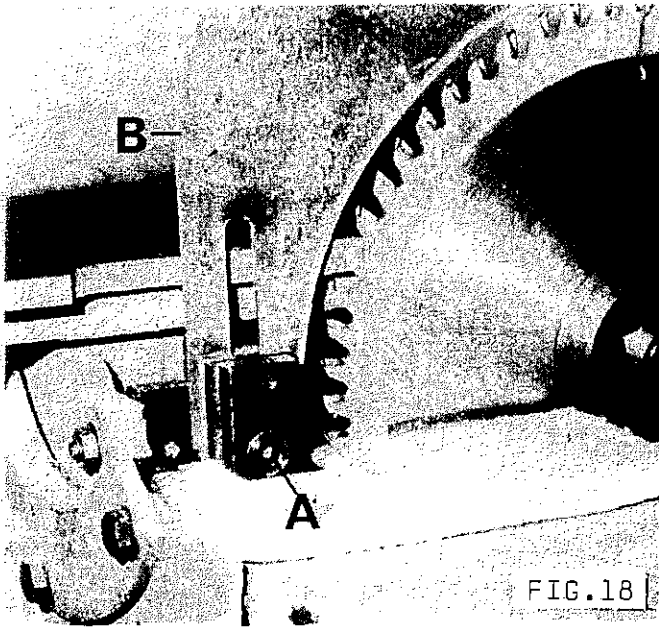

FIG. 18
- 2) Move sliding table for access to riving knife adjustment, FIG.18.